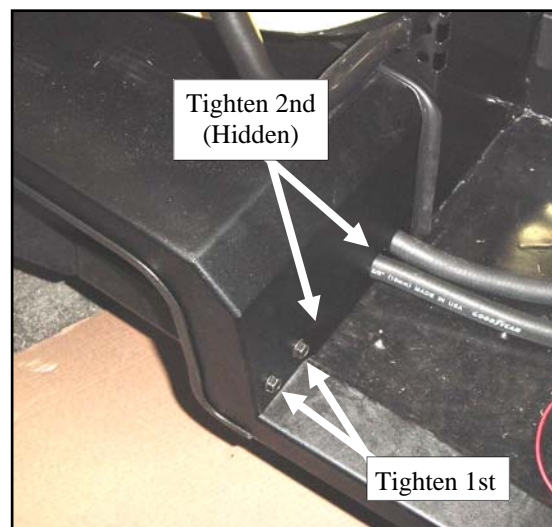

Fig. 10.1 (view of air intake cover)
**10.1** Install the filler on passenger's side as shown in figure 10.1. Loosely fasten to the rear panel using the hardware listed below.